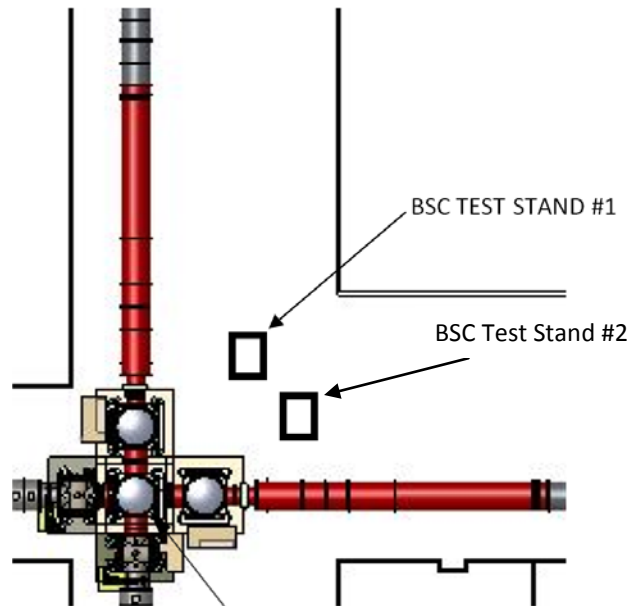

Figure 1: LLO LVEA Test Stand Layout
- An appropriate clean room should be installed over the test stand. For this procedure we are using BSC Test Stand #2 (see Figure 1)